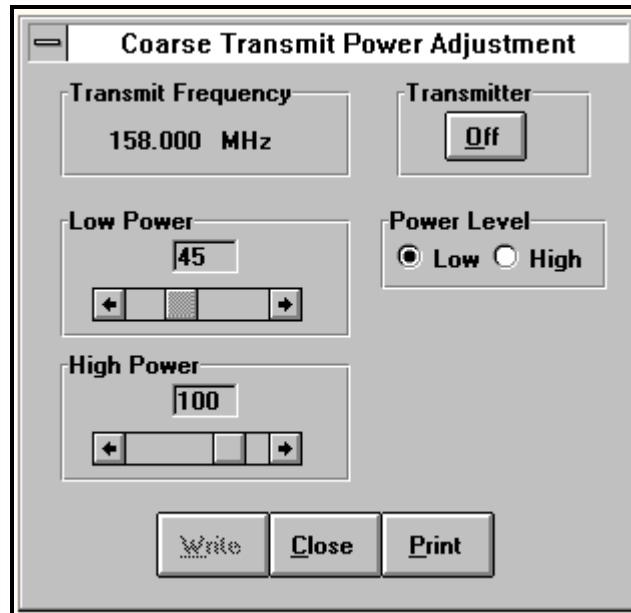

Figure 7.5 – Coarse Transmit Power Adjustment
1. Select "Coarse Transmit Power Adjustment" from the Service dropdown menu. The service adjustment window is shown in Figure 7.5.